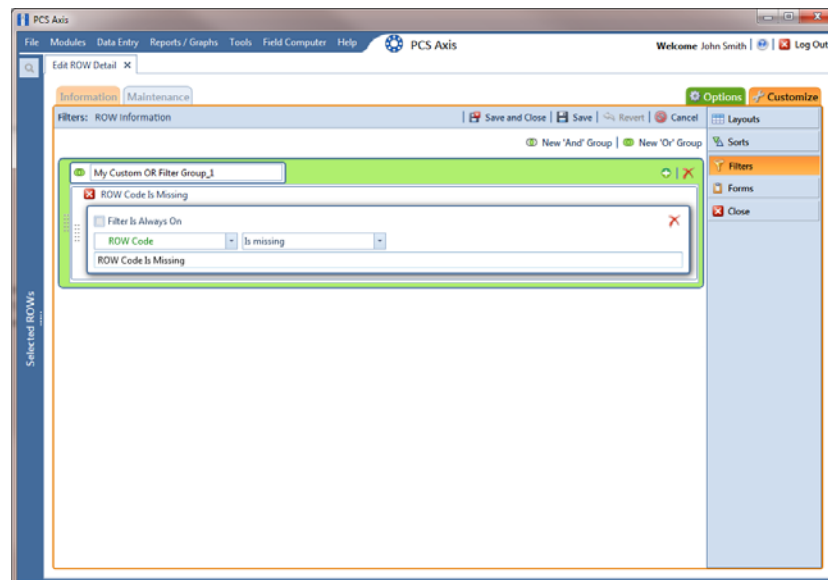

Figure 4-42. Filters
- 4 Click the **Customize** tab  then the **Filters** button  to open the *Filters* page (Figure 4-42).
- 6 Type a name for the filter group in the field **Include records that match any of these conditions** (Figure 4-42, page 141).